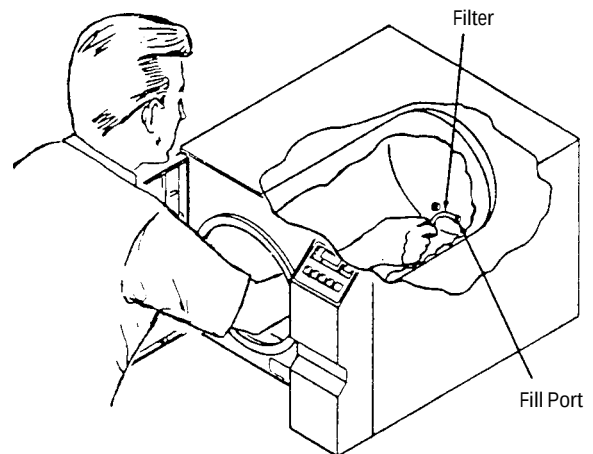

Figure 7-11
4. After changing/replacing filter, insert tube end of filter into the fill port (located on the bottom right portion of the chamber rear wall). After inserting, turn filter so the tip rests on the bottom of the chamber near the center line (see Figures 7-11 and 7-12).